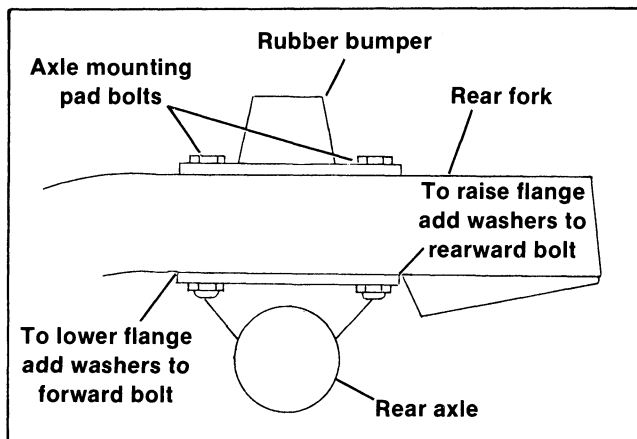

Figure 7-3. Transmission Horizontal Alignment
3. Check to make sure that the primary and secondary flanges are aligned horizontally. If misalignment is present, add washers to a maximum of 3/16 in. at the axle mounting pads as shown in Figure 7-3. Washers must be added to both sides of car to achieve alignment. Do not exceed 3/16 in. spacing.